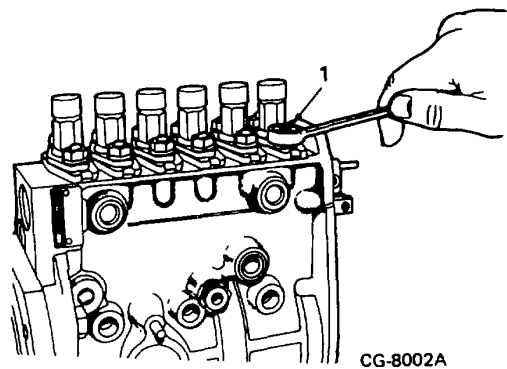

Figure 29. Barrel Removal
- 33. Remove barrel flange nuts and lockwashers (Figure 29) (assembly jig KDEP 1066 may be used). Remove each barrel from housing. Store each barrel with its plunger and shims.